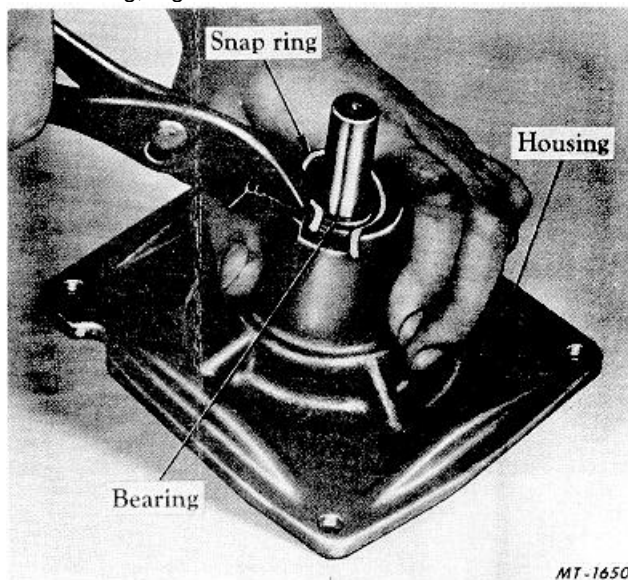

Fig. 131 Removing Snap Ring in Front of Water Pump Shaft Bearing
3. Remove snap ring from in front of water pump shaft bearing, Fig. 131.